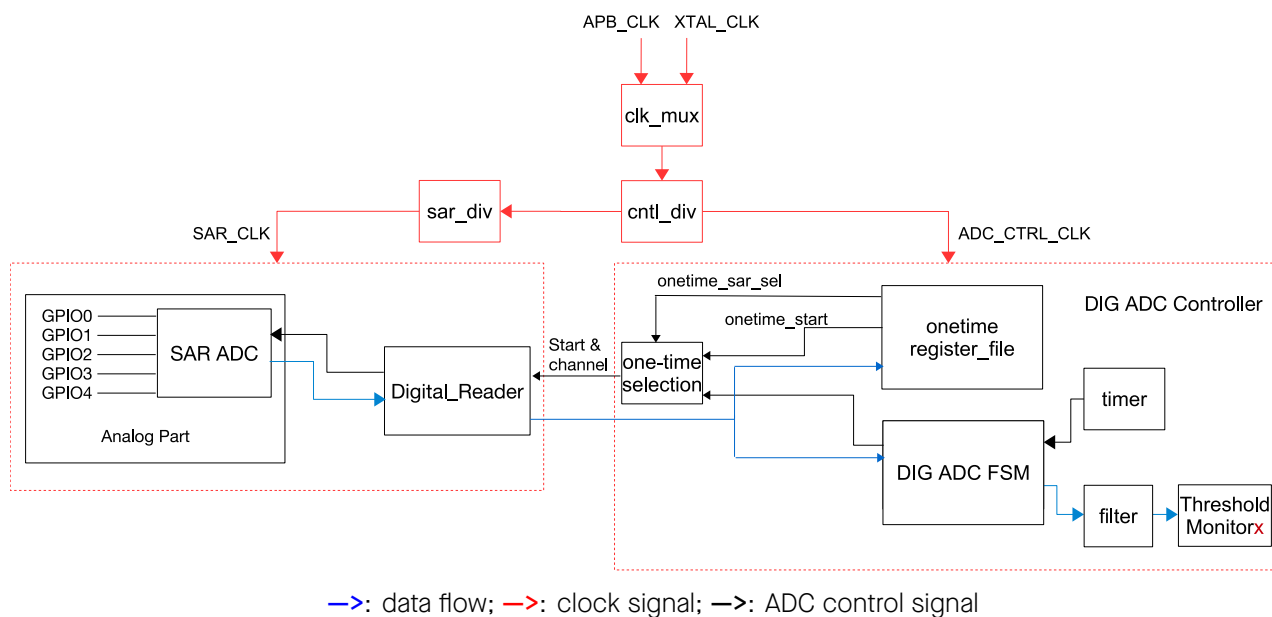

Figure 23-1. SAR ADC Function Overview
As shown in Figure 23-1, the SAR ADC module consists of the following components:
- the data is discarded after passing through the filter and the threshold monitor, see Figure 23-1),